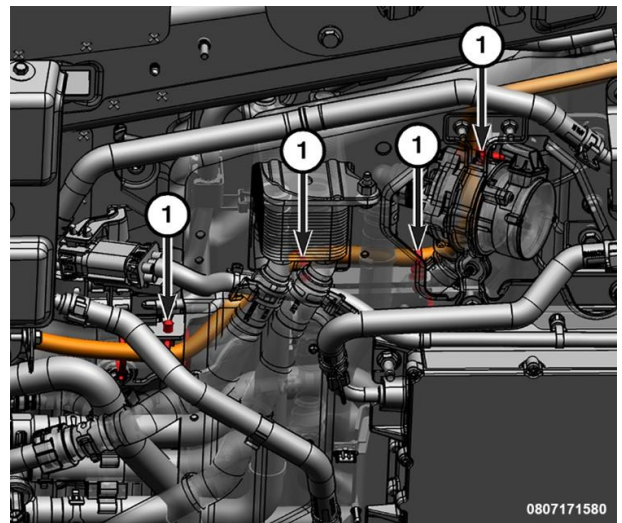

Figure 47 – Battery Charger Bracket Wire Harness
71. Carefully lower the battery charger bracket while releasing the wire harness electrical connectors and retaining clips (1) (Figure 47).
103. Raise and support the battery charger bracket while attaching the wire harness electrical connectors and retaining clips (1) (Figure 47).